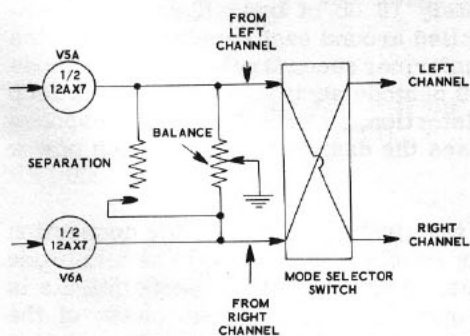

Figure 2B
**STEREO REVERSE position:** See Figure 2B. In this position signals from the Left Channel inputs are fed to the Right Channel output, and signals from the Right Channel inputs are fed to the Left Channel output.